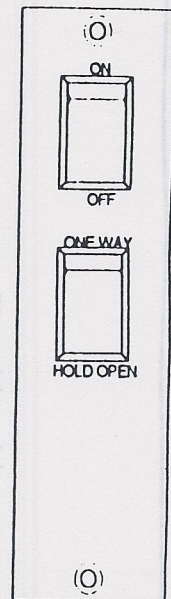

Figure 3
5. The door is in **HOLD OPEN** mode when M0 and M1 are on. No activation is needed when this selection is made. (See Figure 3).